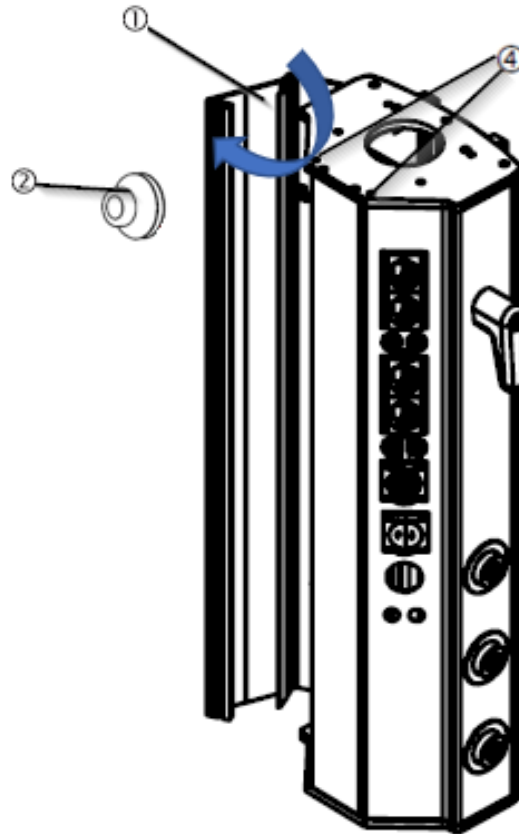

Fig. 12 Opening the service head covers.
- The ceiling trim (3) is later mounted flush with the ceiling and covers the counter plate ④. See figure 12.
- Open one of the side covers of the service head (1) by removing the M4x16 socket head cap screws (4) at the top and bottom. The side cover can now be opened as shown in figure 12, revealing the inside of the service head.